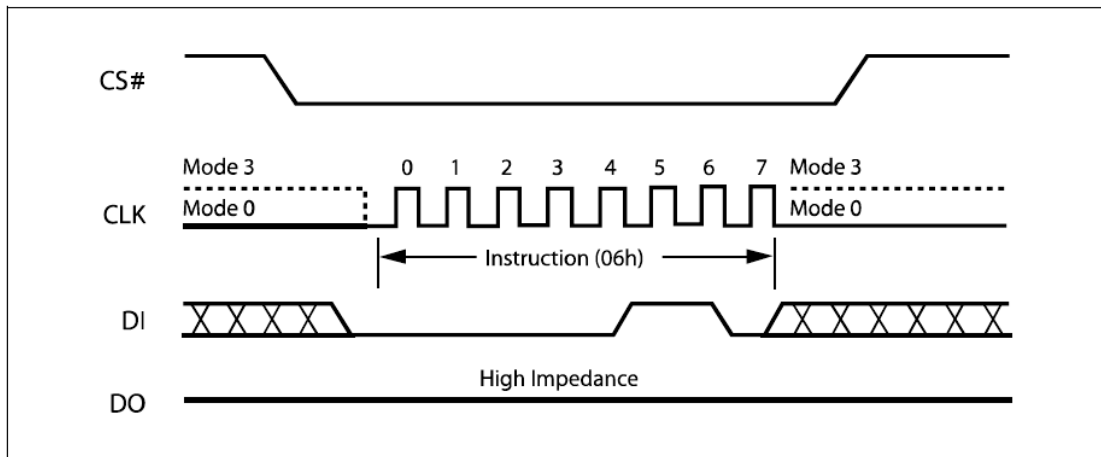

Figure 8. Write Enable Instruction Sequence Diagram
The Write Enable (WREN) instruction (Figure 8) sets the Write Enable Latch (WEL) bit. The Write Enable Latch (WEL) bit must be set prior to every Page Program (PP), 1K Sector Erase (1KSE), 2K Sector Erase (2KSE), Sector Erase (SE), Half Block Erase (HBE), Block Erase (BE), Chip Erase (CE) and Write Status Register (WRSR) instruction.